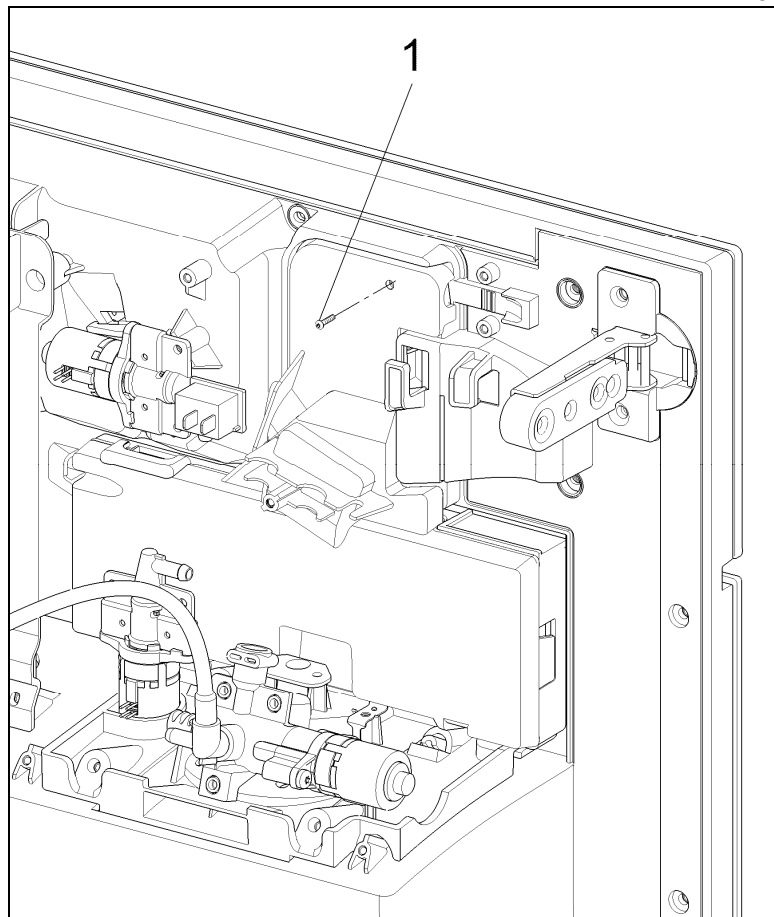
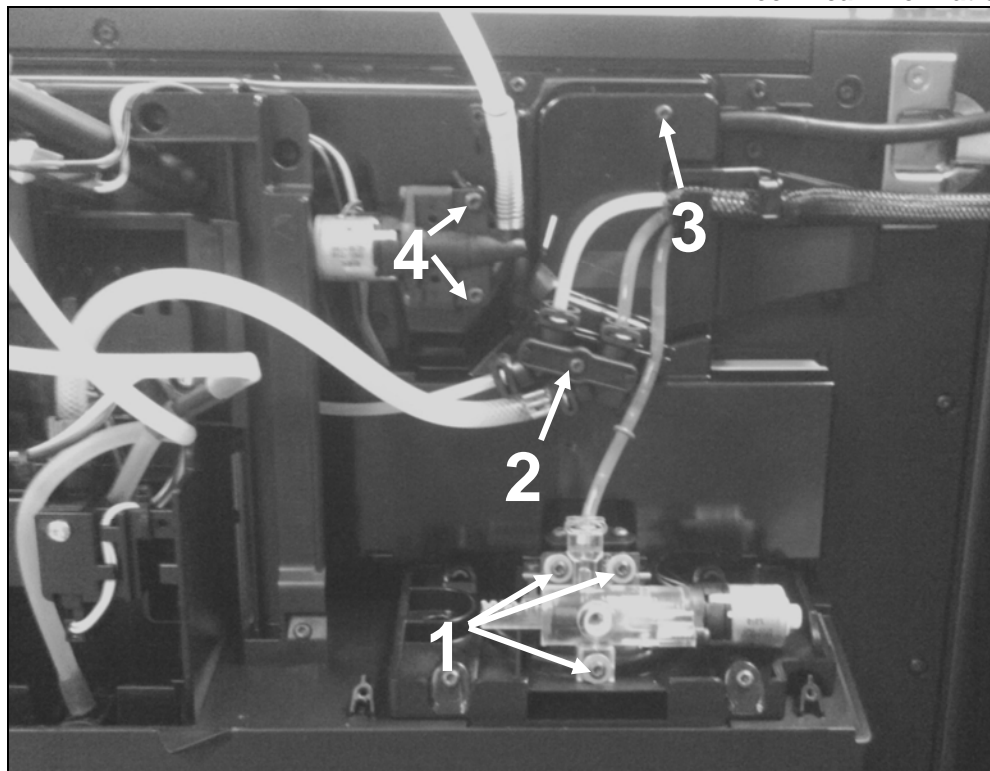

Figure 001-57: Auxiliary Electronic Cover
Figure 001-59: Milk Valve, Air Valve, Hose Bracket and Auxiliary Electronic Cover
4. Remove the T10 securing the auxiliary electronic cover (Figure 001-57, Item 1); take off the cover.
3. Remove the three T10 screws securing the milk valve (Figure 001-59, Item 1). Release the milk valve.
4. Remove the T10 screw securing the hose bracket in front of the auxiliary electronic cover on the inside of the door (Figure 001-59, Item 2).
6. Remove the T10 screw securing the auxiliary electronic cover (Figure 001-57, Item 1, or Figure 001-59, Item 3); take off the cover.
3. Remove the two T10 screws securing the air valve (Figure 001-59, Item 4).
6. Remove the T10 securing the auxiliary electronic cover (Figure 001-57, Item 1, or Figure 001-59, Item 3); take off the cover.
4. Remove the T10 screw securing the auxiliary electronic cover (Figure 001-57, Item 1); take off the cover.